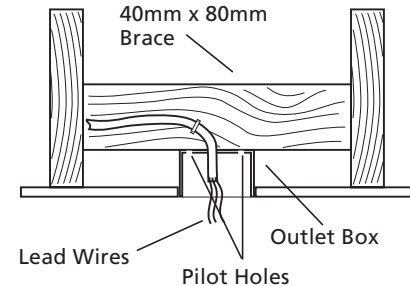

Figure 2a - Pilot Holes and Outlet Box location
1. Drill two pilot holes into the wood support structure through the outermost holes on the outlet box. The pilot holes should be $9/64$ " in diameter and $4\ 1/4$ " (110mm) apart. See Figure 2a.